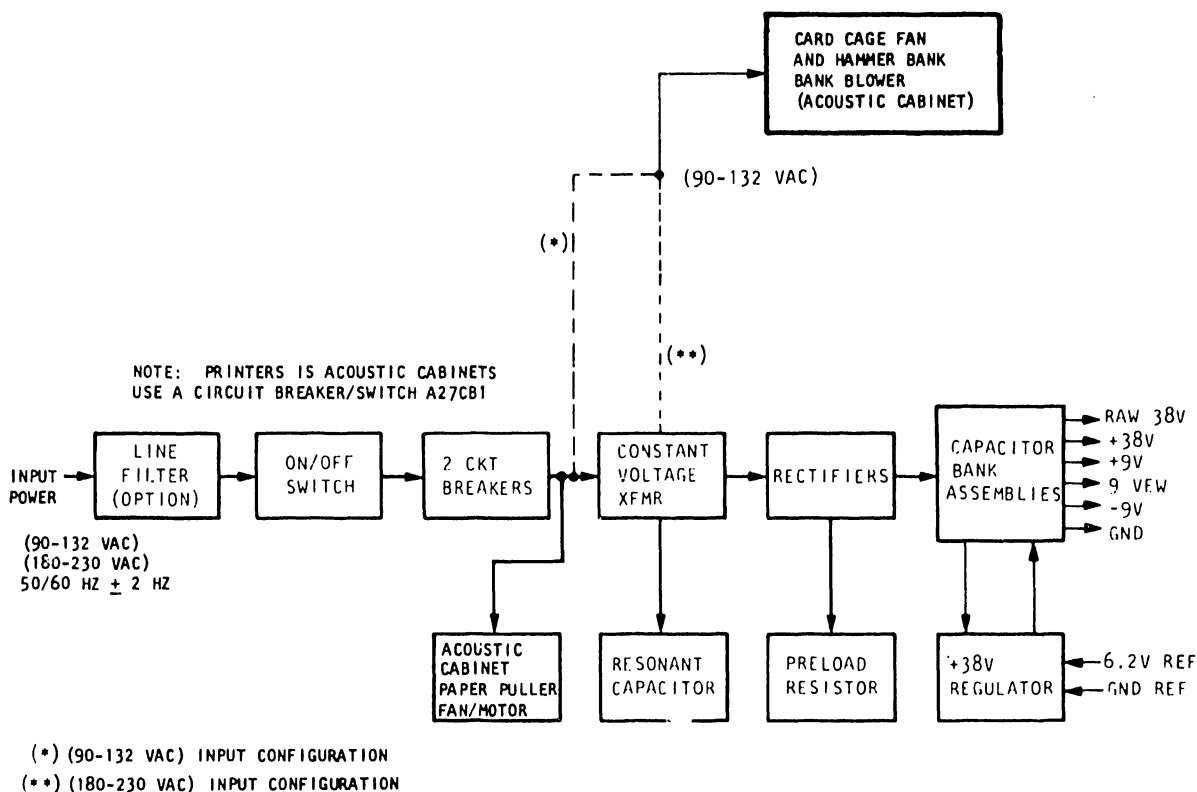

Figure 2-62. Universal Power Supply Block Diagram (Optional)
**Figure 2-62** is a block diagram showing the major components of the universal power supply. Basic operation follows that of the standard power supply with the added requirement of a low frequency switching regulator located on the universal Rectifier CCA. The low frequency switching regulator is provided to stabilize the +38 volt output because a  $\pm 2$  Hz frequency variation (58 Hz to 62 Hz or 48 Hz to 52 Hz) applied to the ferro-resonant transformer, A9T1, produces more output variation than the printer's 38V circuits can tolerate.